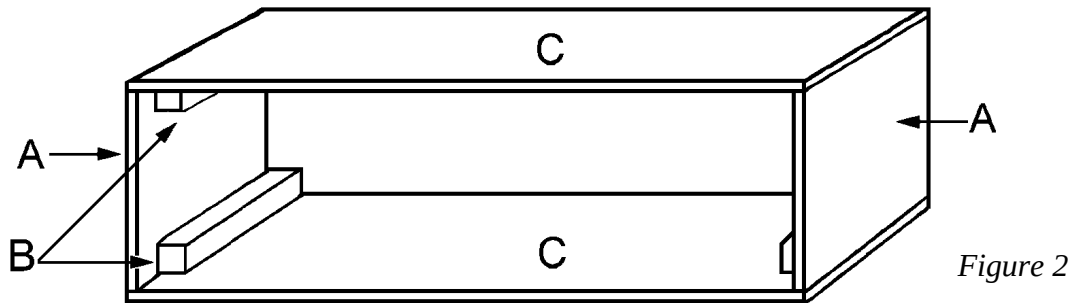

Figure 2
4. Repeat Step 3 to attach the remaining two corner supports (B) to the other side (A).
5. Cut two front/back pieces (C) from $\frac{3}{4}$ "-thick plywood, each measuring 16-1/2 x 48 inches.
6. Place the two sides (A) opposite each other, with the 2-1/4" gap at the bottom of both sides (A). Glue and screw the sides (A) to the front and back (C), matching 16-1/2-inch edges, as shown in *Figure 2*. The front and back (C) should overlap the exposed edges of the sides (A). Use 2-inch-long screws placed about every 4 inches. Screw through the front and back (C) into the corner supports (B).